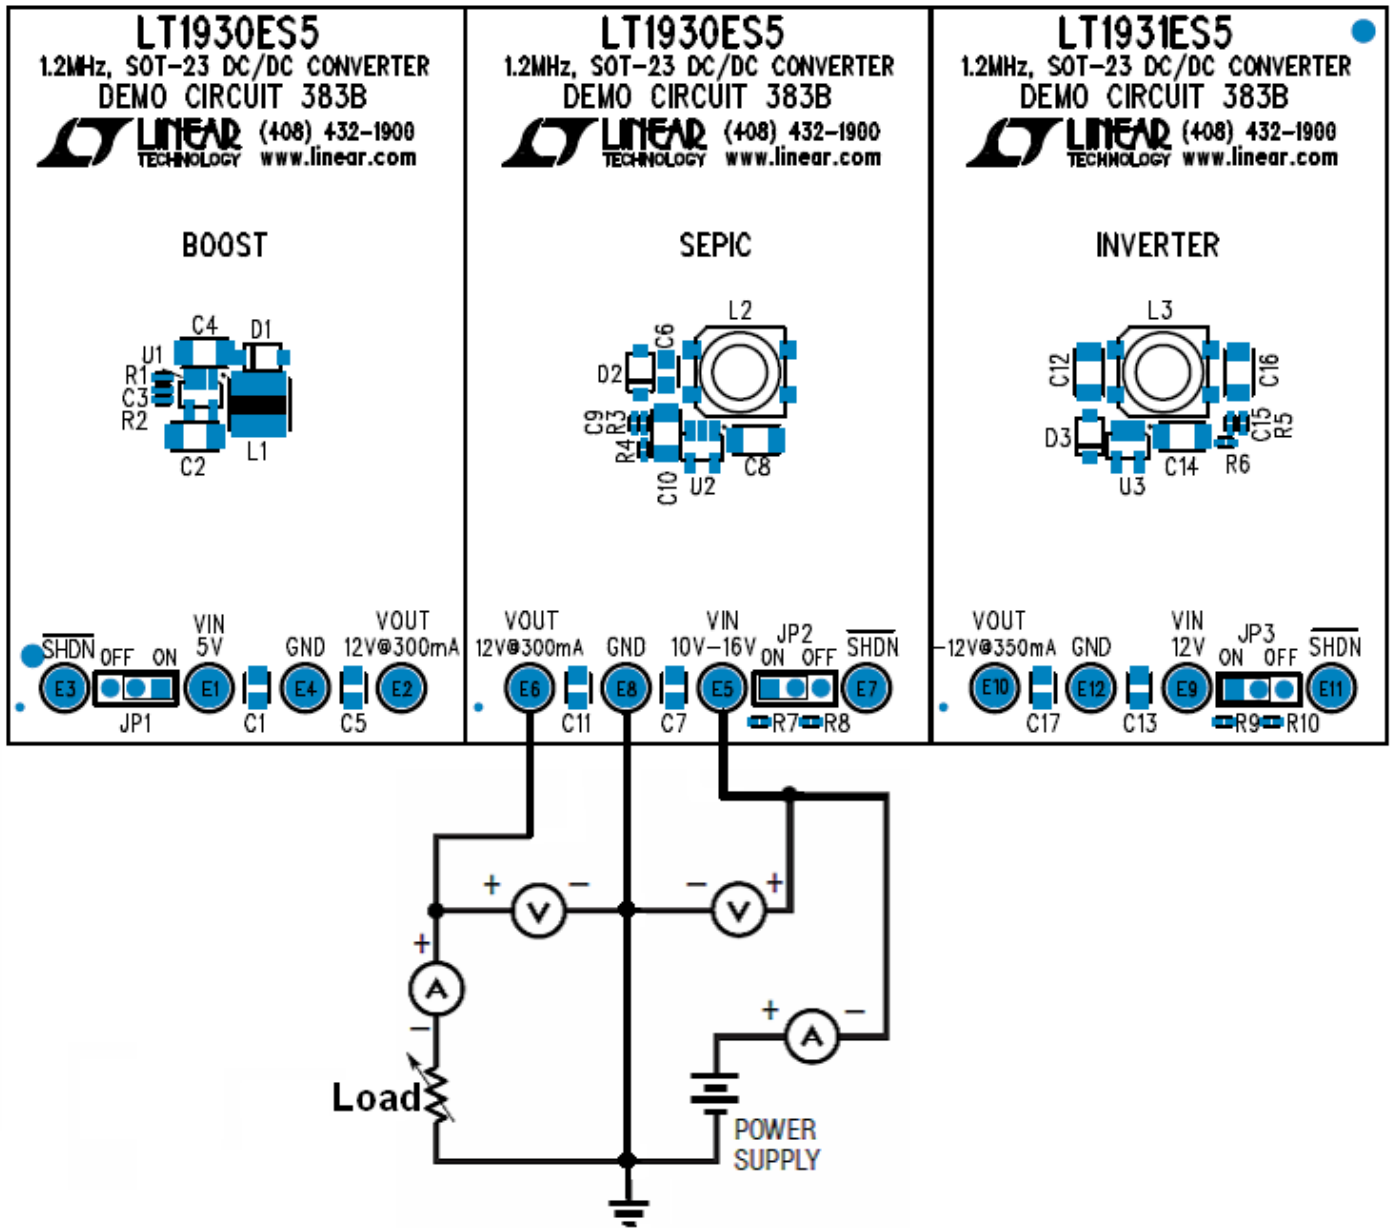

Figure 2. Proper Measurement Equipment Setup for Sepic Converter
1. Before turning on the power, connect a 16V, 1A bench supply to the Vin and Gnd terminals and connect the output loads (up to 300mA). When an electronic load is used, decrease load current setting to less than 100mA until the output voltage has stabilized. Connect oscilloscope and meters to the Vout and Gnd terminals, as shown in Figure 2.